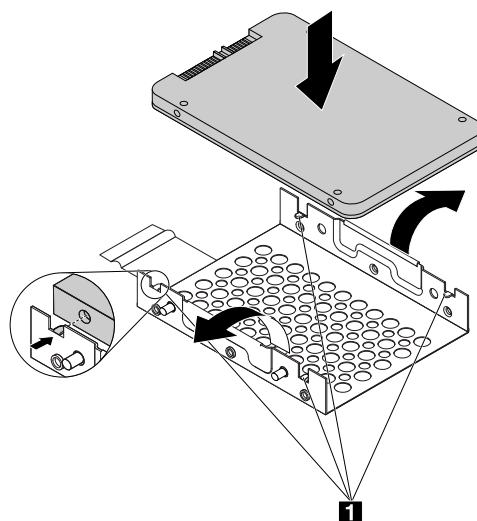

Figure 72. Installing the storage drive into the metal bracket of the converter
6. Install the new storage drive into the converter. See Figure 72 “Installing the storage drive into the metal bracket of the converter” on page 144.